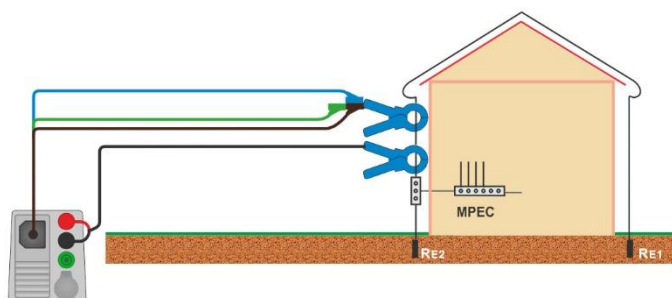

Figure 7.100: Contactless earthing resistance measurement
- › Clamp on object under test, see **Figure 7.100**.